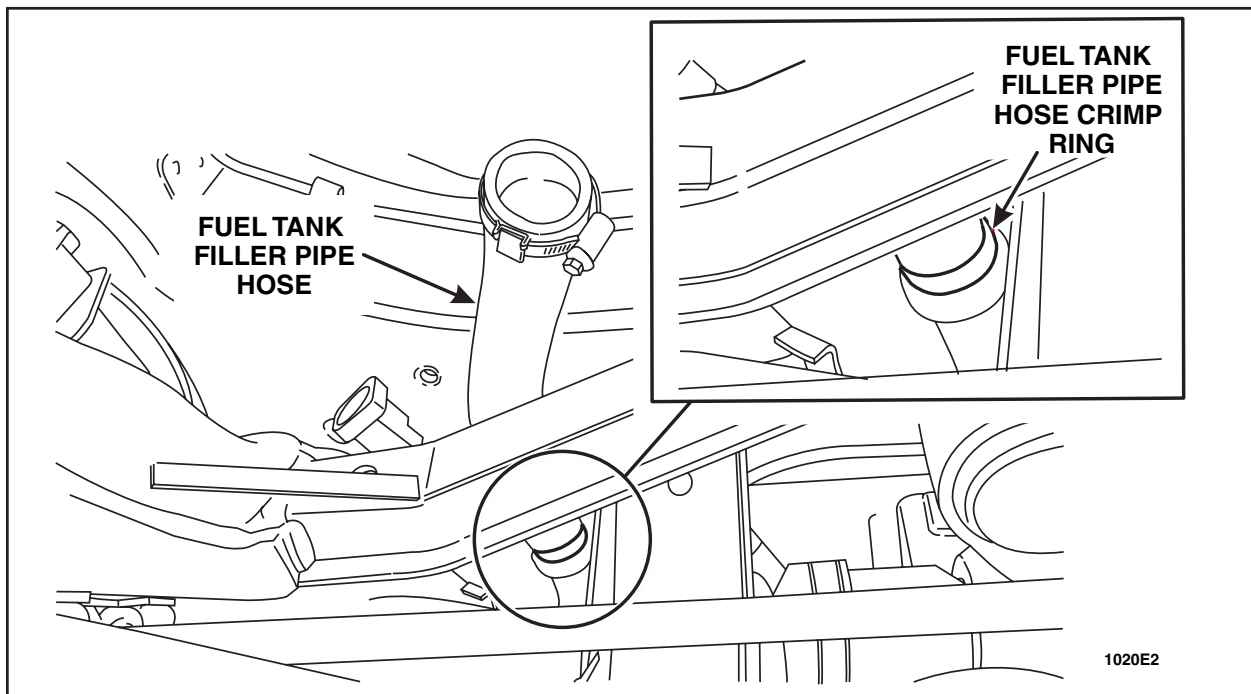

FIGURE 3
17. Using a suitable cutting tool, remove the fuel tank filler pipe hose crimp ring and the filler pipe hose. See Figure 3.